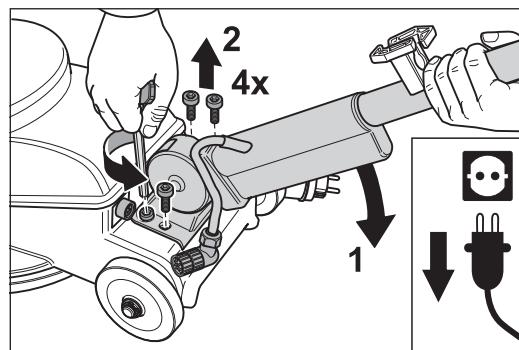

Fig. 30 Unscrew the guide tube.
- 6 Use a hexagonal socket wrench to release the four fastening screws at the base of the guide tube. Steady the guide tube with one hand as you do so (Fig. 30).**